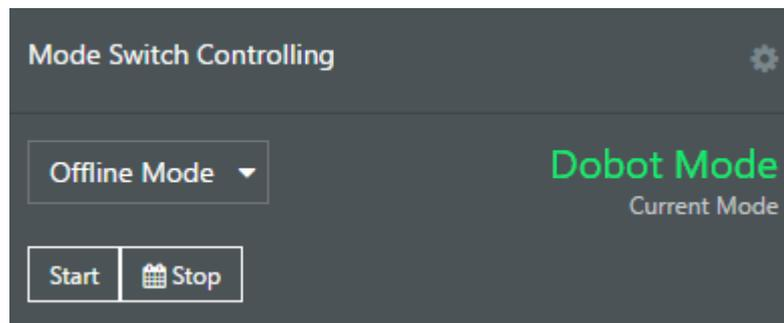

Figure 6.34 Status of Dobot M1
**Step 10** Select **Offline Mode** from the drop-down list on the **Mode Switch Controlling** pane of the **Home** page, and click **Start** to make Dobot M1 in the **Offline Mode** status, as shown in Figure 6.34. Dobot M1 is disconnected from M1Studio, and Dobot M1 can be running according to the files that are in offline mode.